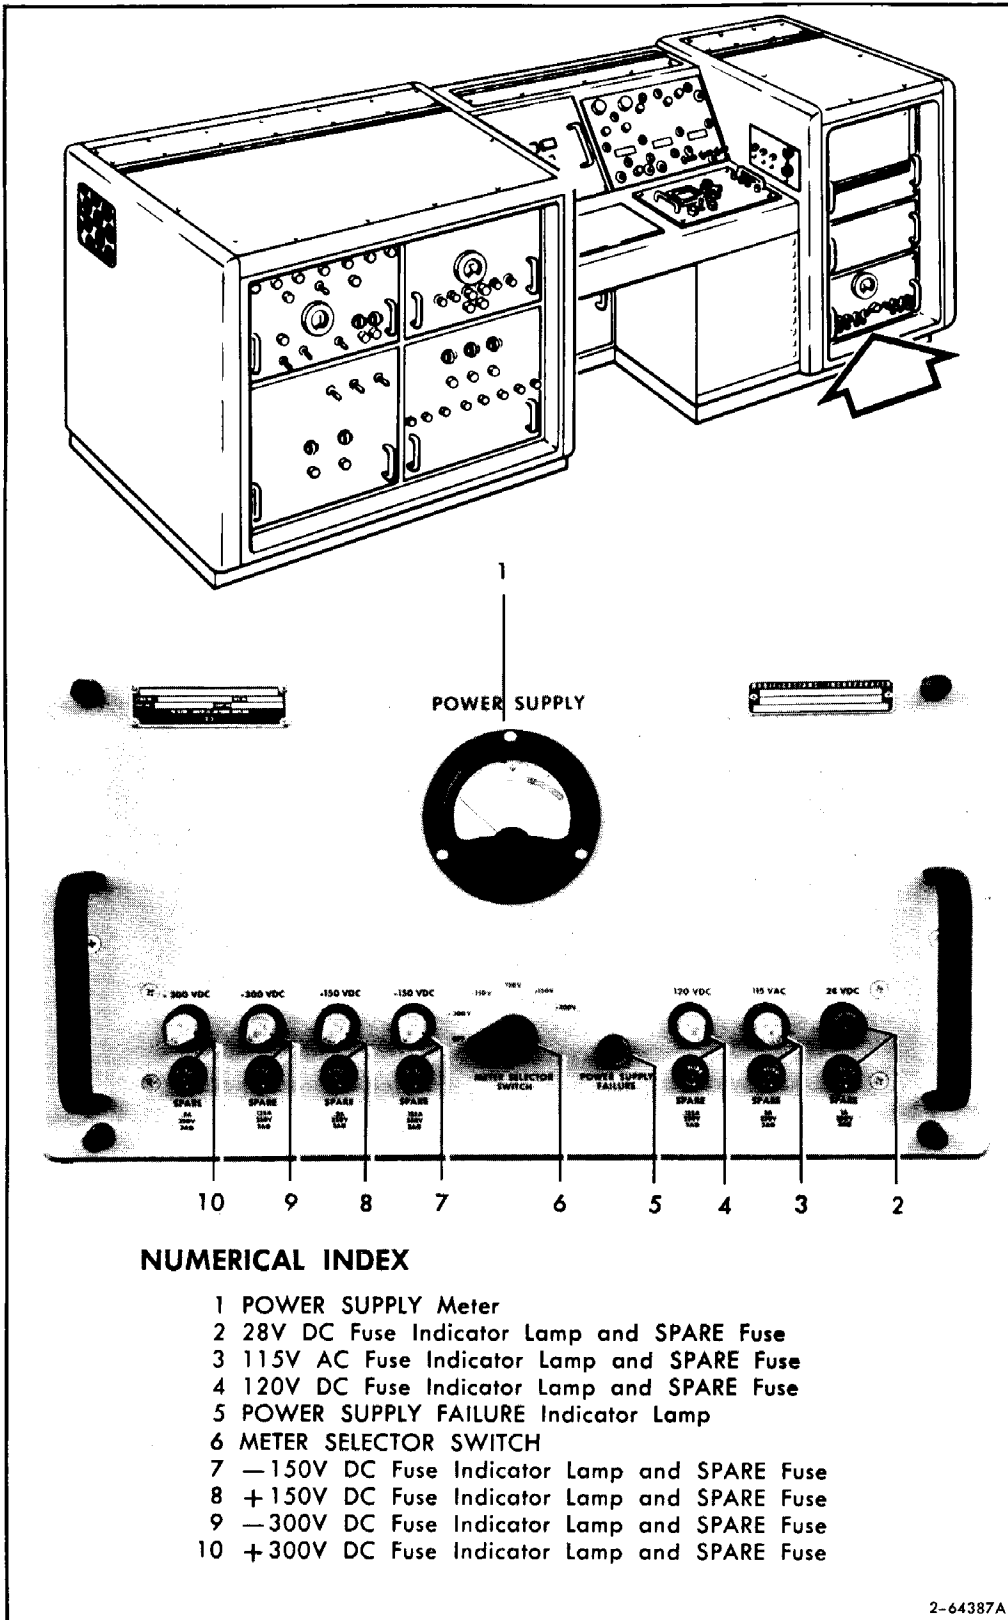

Figure 3-9. SRP Main Console Power Supply
- i. Place METER SELECTOR switch (6, figure 3-9) on SRP Console Power Supply OFF.
- a. Place METER SELECTOR SWITCH (6, figure 3-9) on Power Supply panel at -300; POWER SUPPLY meter (1) must indicate in green range.